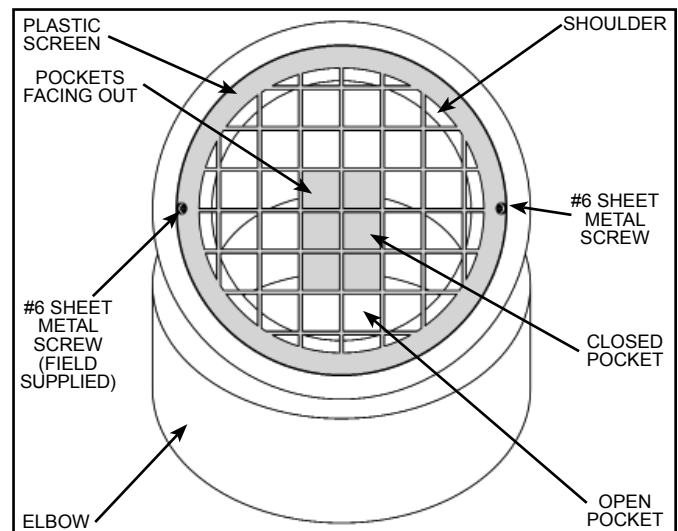

Figure 33
- Plastic screens must be secured with (2) screws:
1. Install plastic screen into elbow (see Figure 33).
2. Orient screen as shown in see Figure 33 with an opening at the bottom of the assembly and the smooth side facing in.
4. Secure screen in place with screws (field supplied) (see Figure 33).